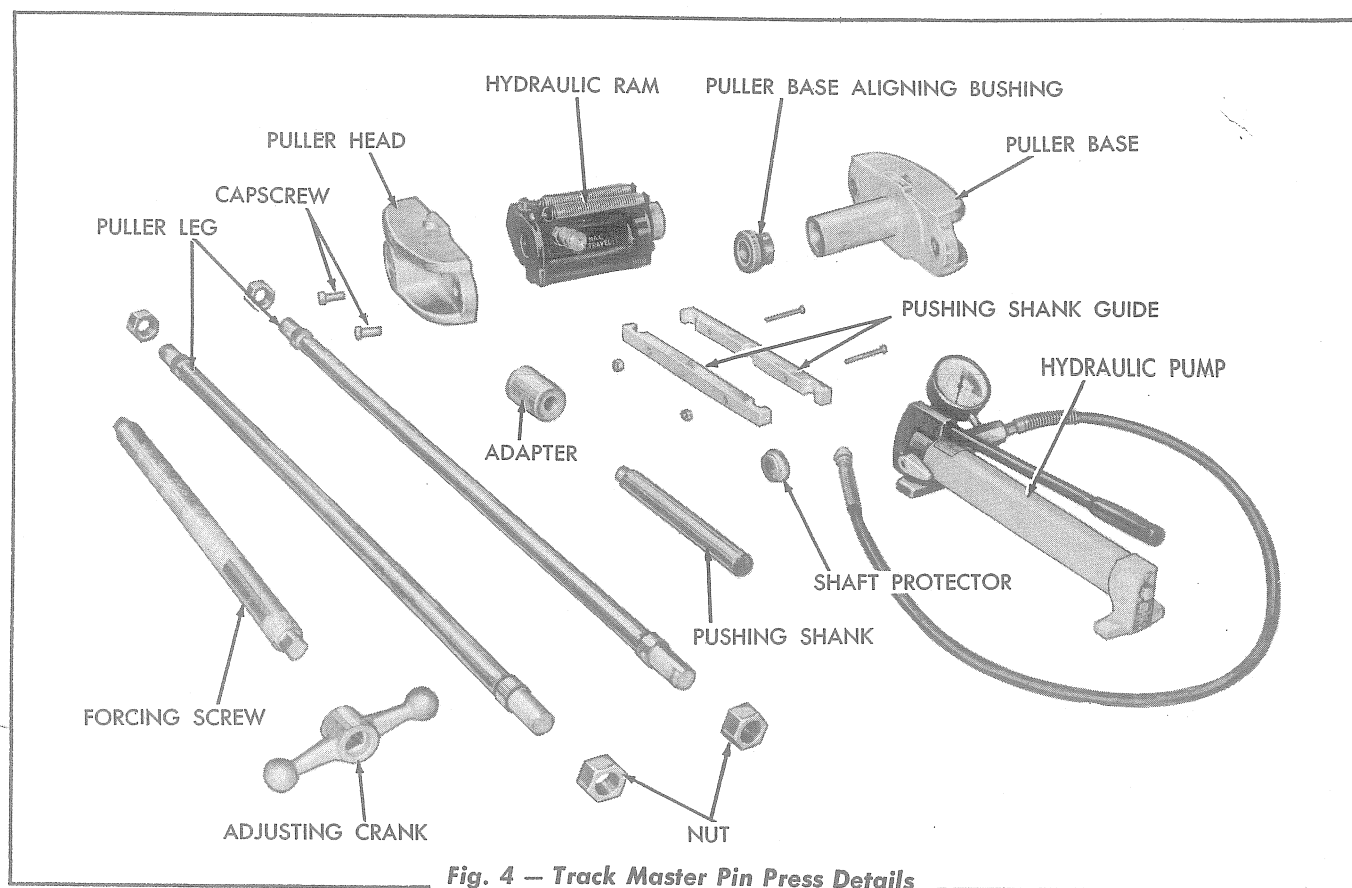

Fig. 4 — Track Master Pin Press Details
7. Using special tools similar to the ones shown in Figs. 4 and 5, install the master pin as follows: